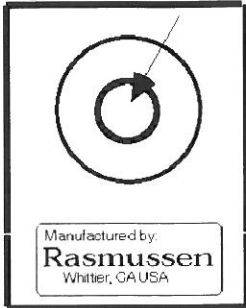

Figure 9
4. Depress valve knob until air is bled and gas flows to pilot. Press Piezo IGNITOR Button (**Figure 9**) to light pilot. Continue to hold valve knob in until Pilot remains lit when knob is released.